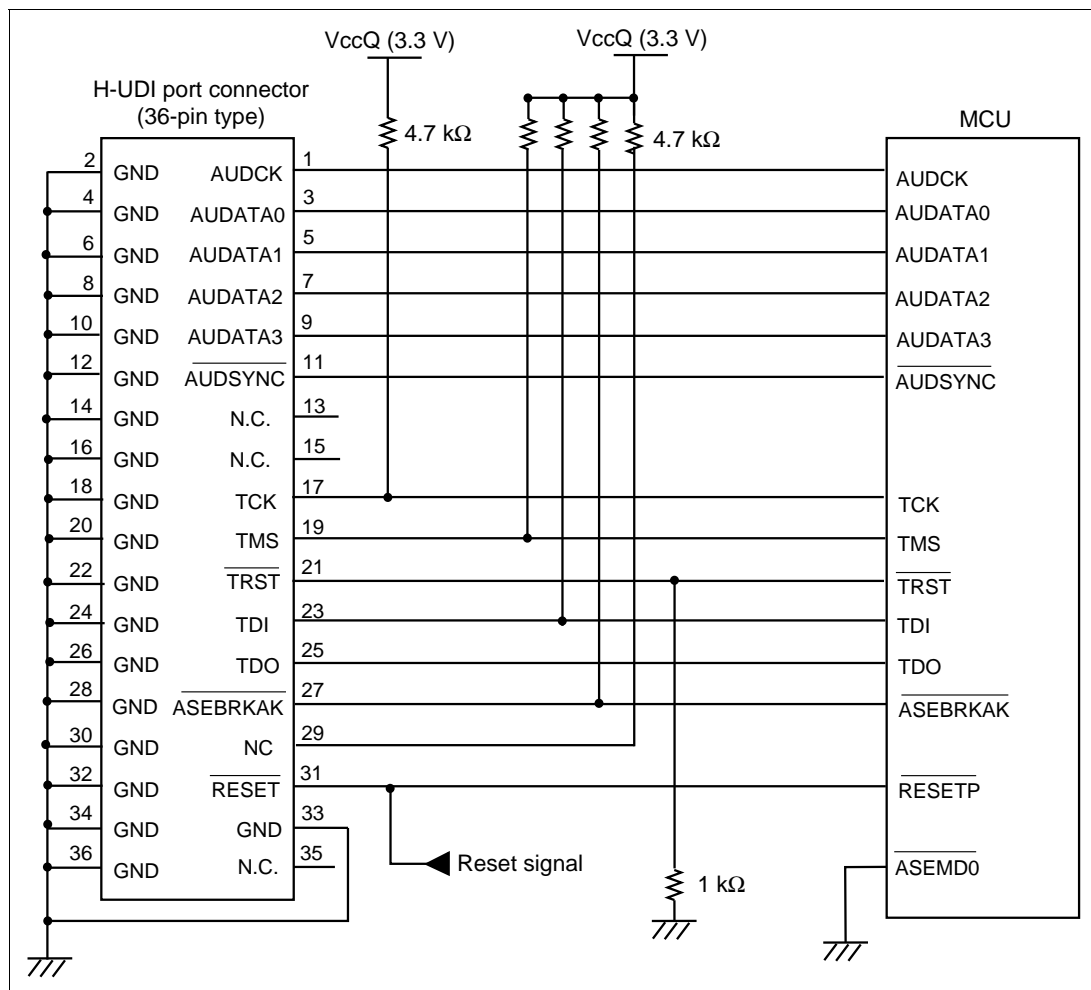

Figure 4.1 Recommended Circuit for Connection between the H-UDI Port Connector and MCU (36-Pin Type)
Figure 4.1 shows a recommended circuit between the H-UDI port connector (36 pins) and the MCU.
- (1) When the emulator is used: /ASEMD0 = low (ASE mode)
- (2) When the emulator is not used: /ASEMD0 = high (normal mode)
7. The resistance values shown in figure 4.1 are recommended.